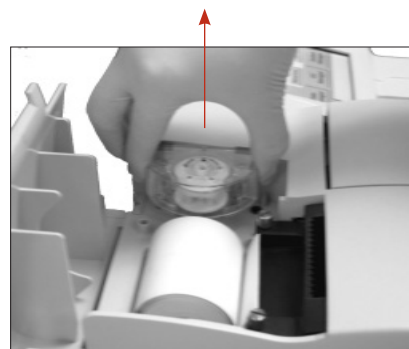

Figure I-2: Remove pump cartridge
2. Remove the pump by firmly grasping the housing and pulling upward (Figure I-2).